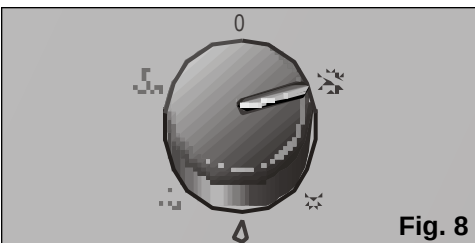

Fig. 8
- ☐ Select the maximum ❄️ or silent ❄️ cooling function, **Fig. 8**. (The silent cooling function reduces the air flow on the appliance).